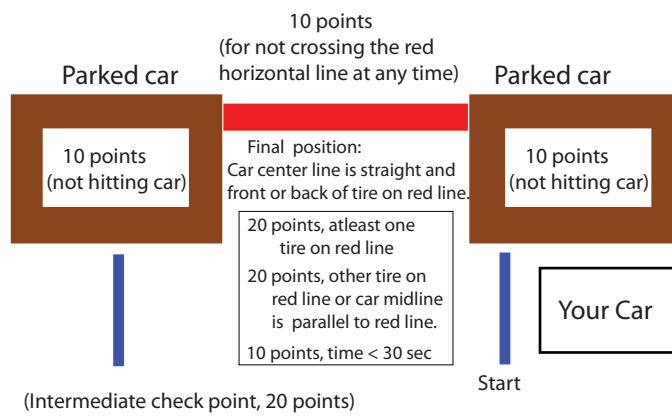

Figure 2: Explanation of grading for the lab.
1. The figure 1 shows the course and figure 2 gives more information about grading. The brown rectangles are parked cars and the red horizontal line between the cars is the reference line that you will be able to use for localization. You may use the LEGO box to replace the parked car. The car should parallel park similar to the animation shown here: <https://en.wikipedia.org/wiki/File:ParallelParkingAnimation.gif>. In particular, note that the car first pulls parallel to the front car, then drives in reverse, and then starts turning to initiate parking. You need to do similar maneuver or you will get no credit for the lab.
Scoring (100 points as given below) One person from each team will place the robot at the start line as shown in the figure 2. When the TA/instructor says, ‘Ready-Set-Go’, the team member will press a button on the brick to get the robot moving. Your time will start when the TA/instructor says ‘Go’. **Your robot should come to a complete stop when it thinks it has parallel parked itself. The robot should also blink the red led on the programmable brick. We will stop the time once we see red light.** The grading rubric is as follows: